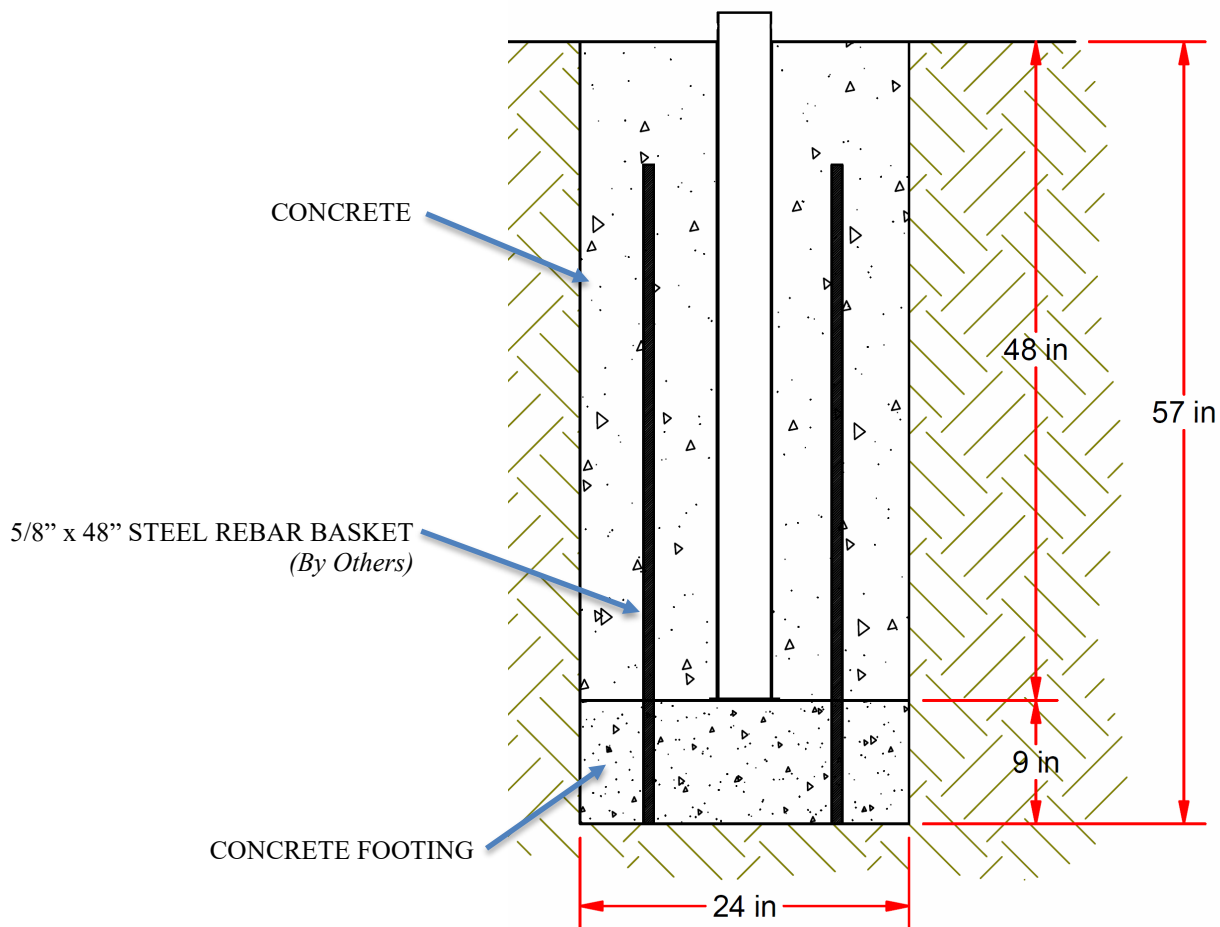

FIGURE: 5
1. Place the ground sleeve into the footing and fully support it in a plumbed position (figure 5).